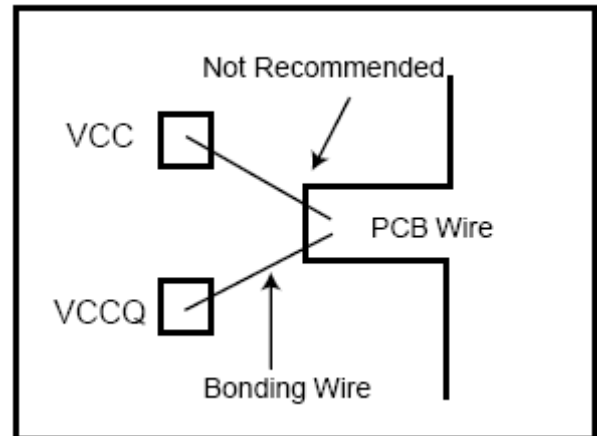

Figure 3 Dedicated Power Pin
2. Each Power pad (VCC/VCCQ, VSS/VSSQ) should be wire bonded to a dedicated power pin, then keep one centimeter distance at least before the user want to merge the PCB layout for those pins , can not be just bonded each Power pad to the same power pin.(Figure 3)